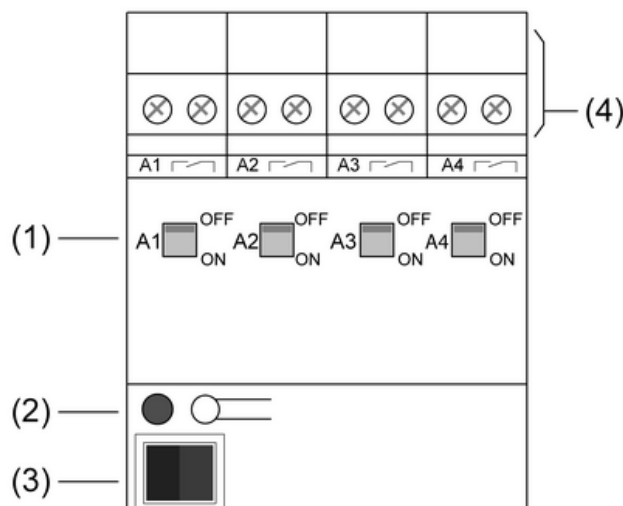

Figure 1: View of switch actuator 4gang
The status of the relay is reflected by the slide switches (1) on the front of the device (figure 1). At the same time they can be used for manual operation of the relay outputs using a suitable tool.